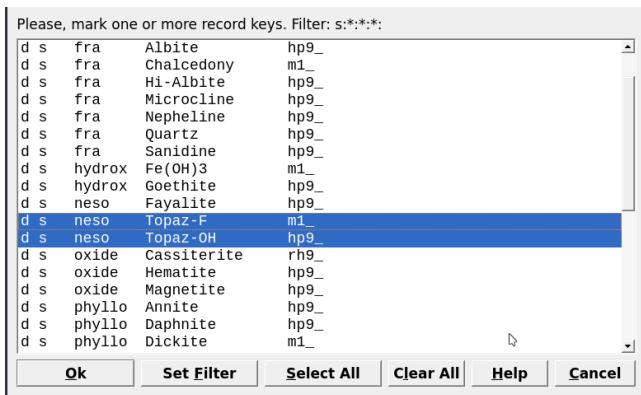

Figure 3.12: Selection of phase or phase endmembers for solid solutions. For a Topaz solid solution we select the OH and F endmembers
- Click next and select the mineral(s) for which you want to create a new phase. Here we select both Topaz-OH and Topaz-F for a binary solid solution (Fig. 3.12). Note that if we would like to only add a pure phase we select only one mineral in this menu. The resulting phase record should be similar to Figure 3.10.